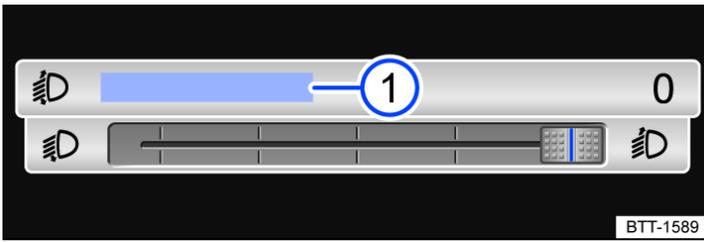

Fig. 1 In the Infotainment system: touch slider for headlight range control.
With some equipment levels, the headlight range can be adjusted with the slider in the Infotainment system → Fig. 1.
- Touch the function button **Headlight range control** → Fig. 1 .